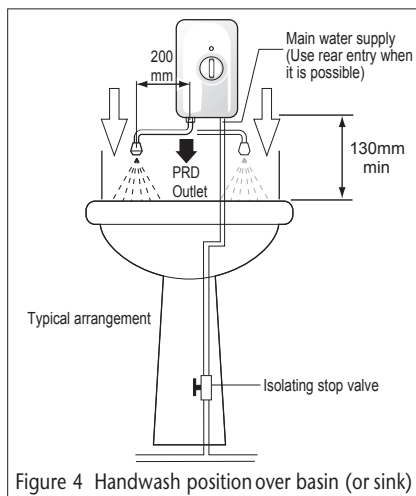

Figure 4 Handwash position over basin (or sink)
- 4.6 Position the unit above the basin so that the spray will be contained within the basin and at a convenient height for hand washing, see Figure 4 opposite.
- 5.11 An isolating stopvalve **MUST** be incorporated to the main water supply to comply with Water Regulations - see Figure 4 p9.